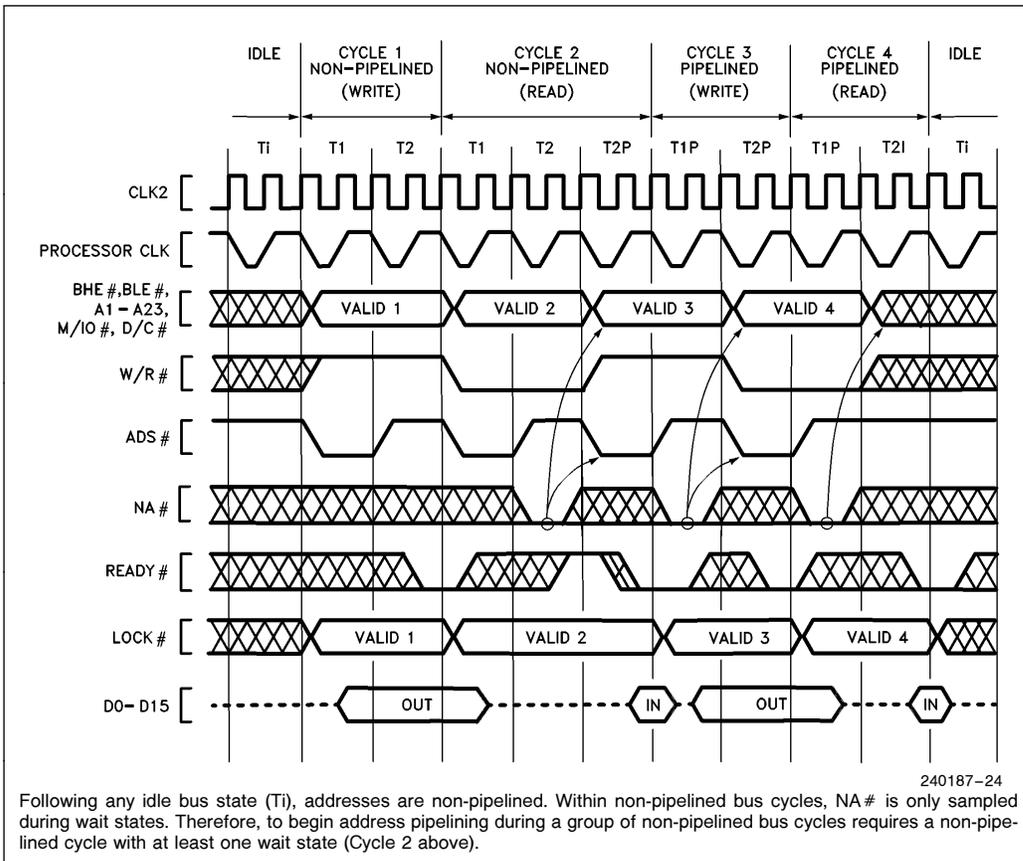

Figure 5.9. Transitioning to Pipelined Address During Burst of Bus Cycles
Once a bus cycle is in progress and the current address has been valid for at least one entire bus state, the NA# input is sampled at the end of every phase one until the bus cycle is acknowledged. During non-pipelined bus cycles NA# is sampled at the end of phase one in every T2. An example is Cycle 2 in Figure 5.9, during which NA# is sampled at the end of phase one of every T2 (it was asserted once during the first T2 and has no further effect during that bus cycle).
1. The next address may appear as early as the bus state after NA# was sampled active (see Figures 5.9 or 5.10). In that case, state T2P is entered immediately. However, when there is not an internal bus request already pending, the next address will not be available immediately after NA# is asserted and T2I is entered instead of T2P (see Fig-
2. Any address which is validated by a pulse on the ADS# output will remain stable on the address pins for at least two processor clock periods. The Intel386 SX Microprocessor cannot produce a new address more frequently than every two processor clock periods (see Figures 5.9, 5.10, and 5.11).
Examples of transition bus cycles are Figure 5.10 Cycle 1 and Figure 5.9 Cycle 2. Figure 5.10 shows transition during the very first cycle after an idle bus state, which is the fastest possible transition into address pipelining. Figure 5.9 Cycle 2 shows a transition cycle occurring during a burst of bus cycles. In any case, a transition cycle is the same whenever it occurs: it consists at least of T1, T2 (NA# is asserted at that time), and T2P (provided the Intel386 SX Microprocessor has an internal bus request already pending, which it almost always has). T2P states are repeated if wait states are added to the cycle.
Once a pipelined bus cycle is in progress, pipelined timing is maintained for the next cycle by asserting NA# and detecting that the Intel386 SX Microprocessor enters T2P during the current bus cycle. The current bus cycle must end in state T2P for pipelining to be maintained in the next cycle. T2P is identified by the assertion of ADS#. Figures 5.9 and 5.10 however, each show pipelining ending after Cycle 4 because Cycle 4 ends in T2I. This indicates the Intel386 SX Microprocessor didn't have an internal bus request prior to the acknowledgement of Cycle 4. If a cycle ends with a T2 or T2I, the next cycle will not be pipelined.